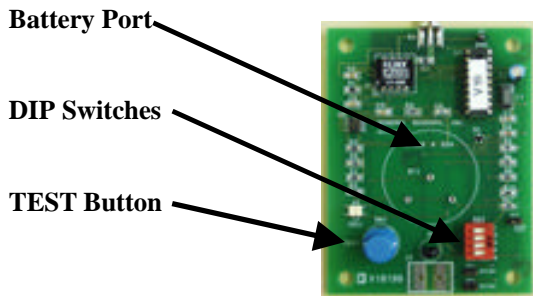

figure 1
- Unwrap the protective plastic from each battery. Note that the battery pins are off center, meaning that there is only one way to **insert the battery** in the center of each sensor's printed circuit board.(see fig.1&2). There is a small arrow on one side of the battery indicating the top position of the battery as it fits in the pin sockets. Make sure the pins are straight and push the battery into the pin sockets.